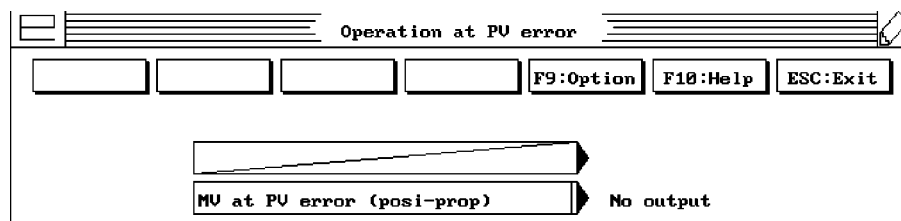

Figure 6
3. Select **MV at PV error (posi-prop)** for valve positioning controllers (Figure 6).